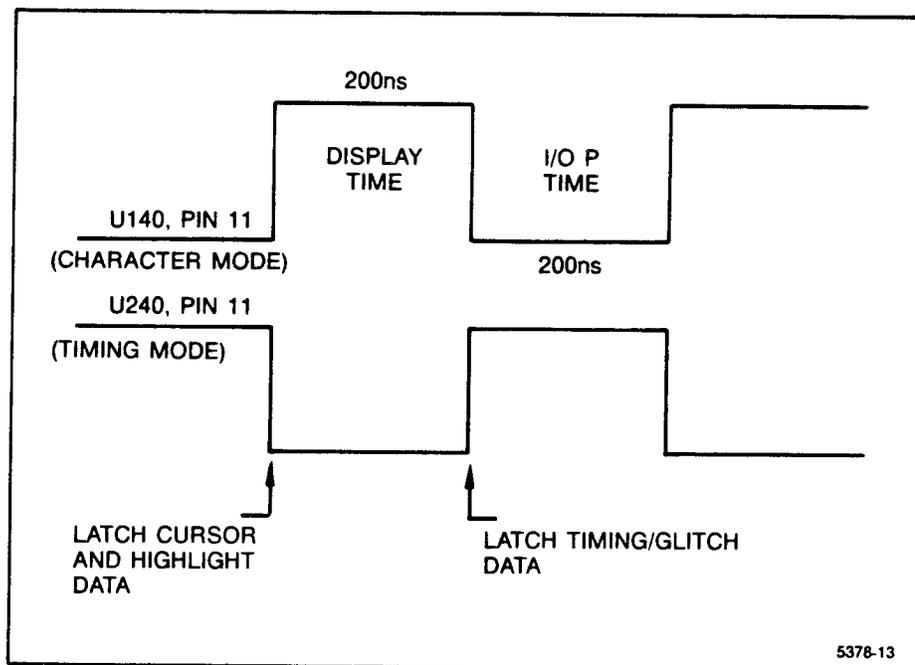

Figure 4-10. Display memory access times.
The Display RAM is accessed according to a 400 ns-per-character cycle time, depending on whether the display is in character or timing mode (refer to Figure 4-10). When the display is in character mode, the address multiplexers A12U160, U165, and U260 allow the High Address Adder and the Character Counter to address the Display RAMs. When the 2.4 MHz(L) clock goes low, the multiplexers allow the I/O Processor to address the Display RAMs.